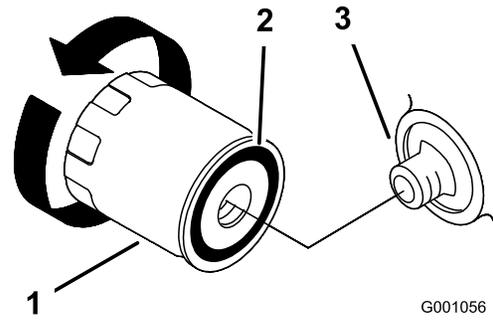
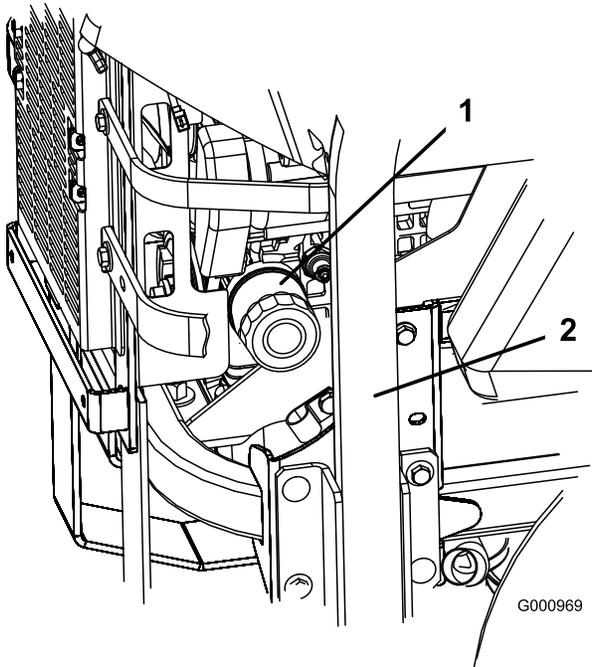

Figure 46
Figure 45
3. Turn the filter counterclockwise to remove it (Figure 45 and Figure 46).